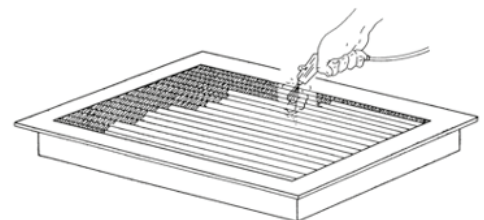

FIGURE 13.12
Before beginning the cleaning of the radiator, proceed as indicated in item 1. To clean the radiator (Figure 13.12) externally, use compressed air from outside to inside. To better clean the radiator, brush the internal lower surface.